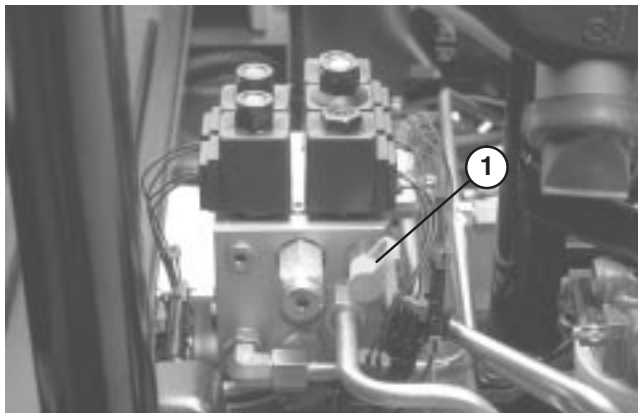

Figure 51
2. Test Port “B” (Fig. 51) is used to assist in trouble shooting the hydraulic circuit for the rear cutting units.